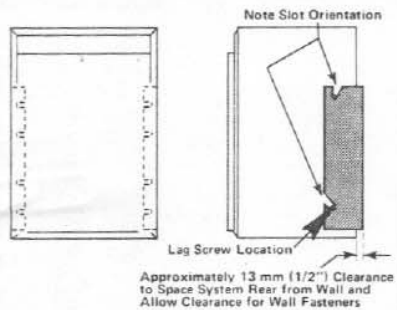

FIGURE 3
2. Vertical mount with bracket wings inboard (see Figure 3).
Figure 3) is somewhat more difficult to execute but is neater in appearance. With all these methods, the loudspeaker system's rear surface should be located approximately 1/2 inch from the wall to avoid possible buzzing caused by wall contact and provide clearance for input leads. In the case of the inboard bracket wing arrangement, this wall spacing is also necessary to provide clearance for the screw heads used to affix the brackets to the wall. If desired, the lag screws may be "backed off" a small amount after completing the installation. This will permit the Sentry 100 to be removed and re-inserted into the brackets as needed.